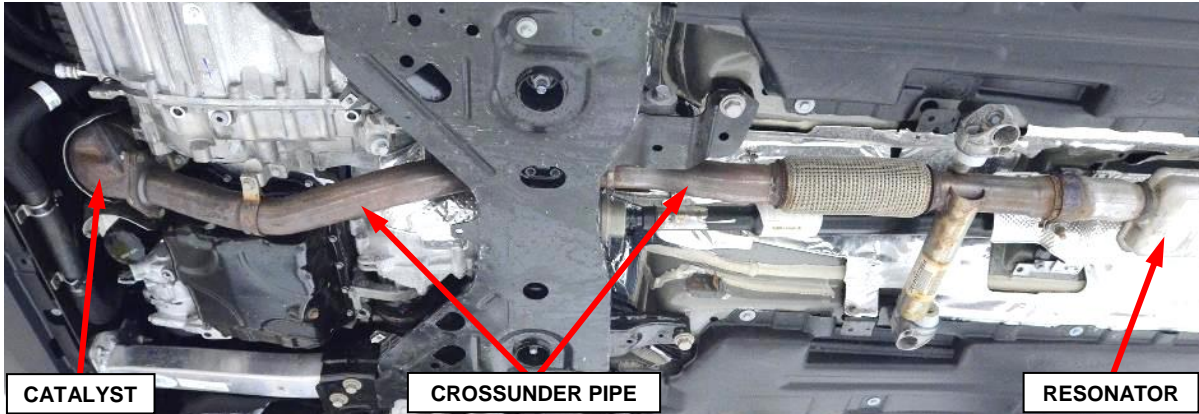

Figure 51 – Exhaust Crossunder Pipe
41. **2.4L Engine:** Remove the exhaust crossunder pipe following steps (a-h) (Figure 51).